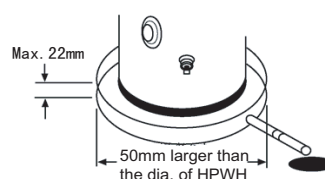

Fig. 5-2
- Probably may cause water leakage because of blockage during the drainage, pit is suggested to use a water collector as instruction in Fig 5-2.